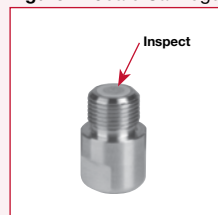

Figure 3. Holder-Cartridge Assembly
- Attach cartridge to holder using your hands. Screw (turn clockwise) the guard cartridge into the holder as far as possible to make the holder-cartridge assembly (Figure 3). Final wrench-tightening of the assembly will be done in Step 2.